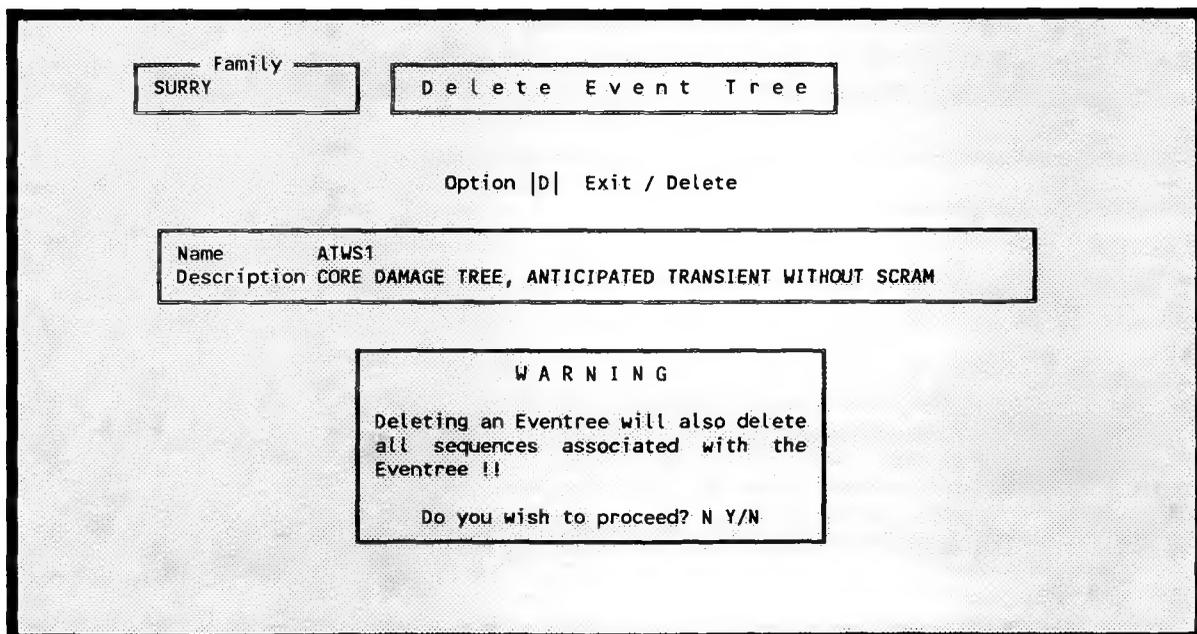

Figure 257. Warning screen for an event tree deletion.
8.3.4.2 Delete. This option performs the actual deletion of the event tree record. To invoke this option, type <D> in the option field and press <Enter>. A warning screen will overlay the Delete Event Tree screen, allowing you to cancel the deletion at this point (Figure 257). If you respond Y (yes), all sequence records associated with the event tree will be deleted from the data base. You will be returned to the Edit Event Trees screen with the message **Record deleted** displayed.